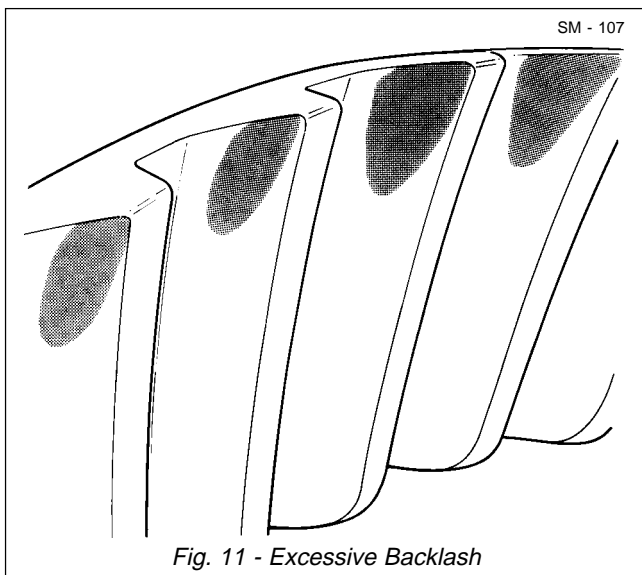

Fig. 11 - Excessive Backlash
- c. If the contact area is on the outer part of the ring gear teeth, see Fig. 11, move ring gear toward pinion by turning bearing adjuster.